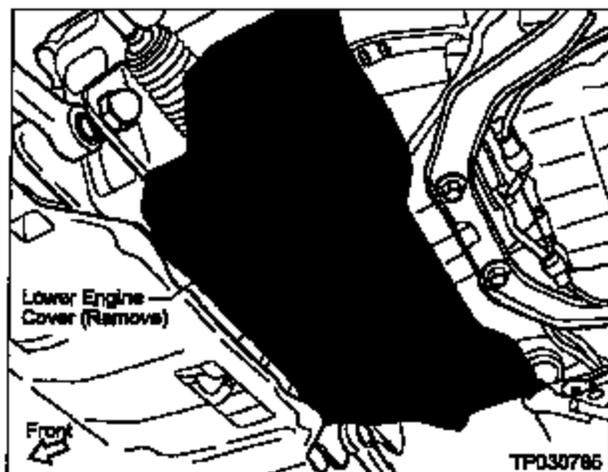

Figure 8
2. Remove the Lower Engine Cover (see Figure 8).